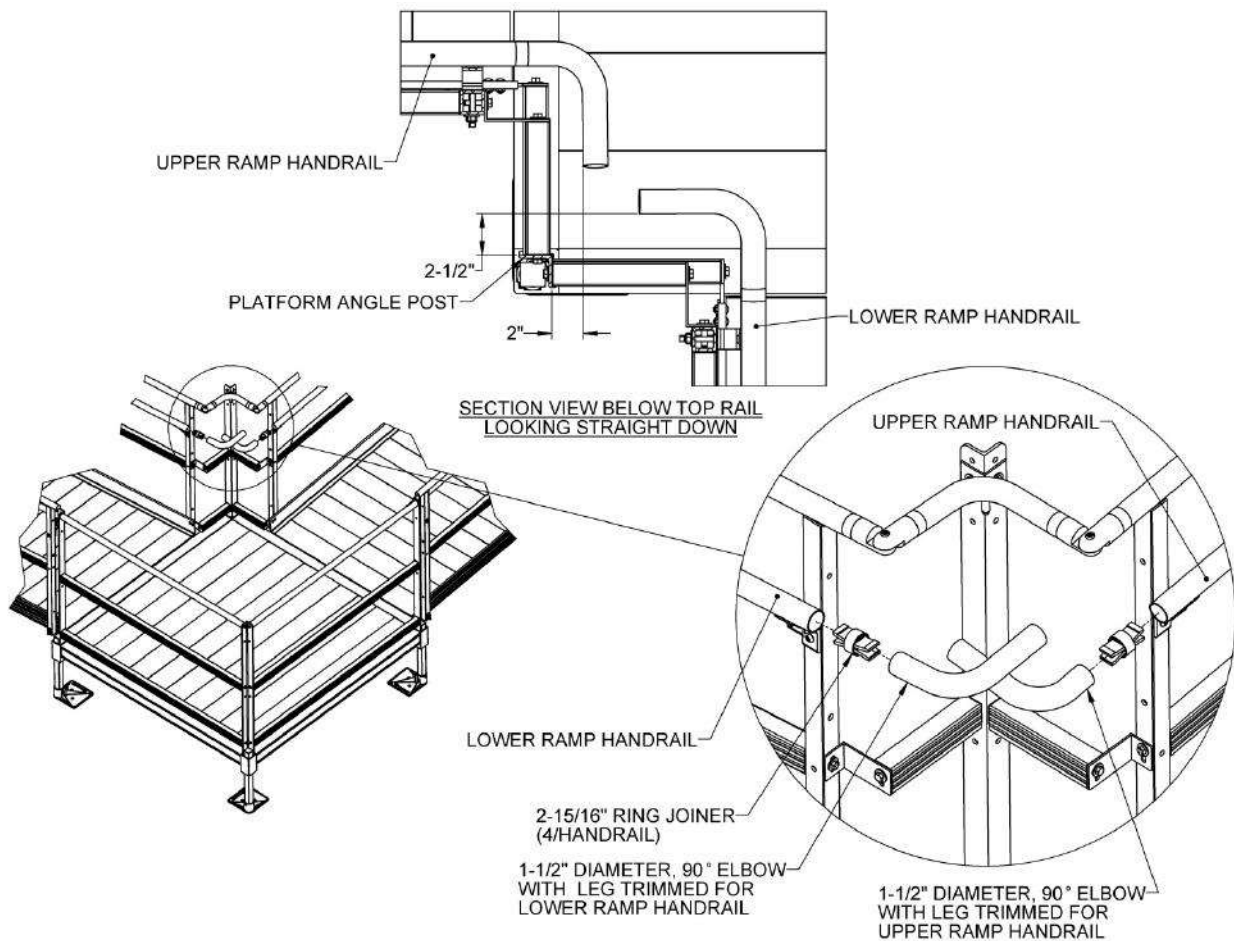

FIG. 5.41
- 5.8.13. Connect the ramp handrails at the corner turn by first trimming one leg from two 1-1/2" diameter 90° elbows. Trim the elbow leg which will be installed on the lower ramp handrail such that the leg pointing toward the platform angle post in the corner is 2-1/2" (approximately) from the angle post with a 2-15/16" ring joiner installed in the ramp handrail. Trim the elbow leg which will be installed on the upper ramp handrail such that the leg pointing toward the platform angle post in the corner is approximately 2" from the angle post with a 2-15/16" ring joiner installed in the ramp handrail (FIG. 5.41).
- 5.8.15. Insert 2-15/16" ring joiners in the open ends of the ramp handrails. Install the 90° elbow leg trimmed for the lower ramp handrail to the joiner in lower ramp handrail and the 90° elbow leg trimmed for the upper ramp handrail to the joiner in the upper ramp handrail. Orient joiner set screws toward the underside of ramp handrails and the 90° elbows toward platform angle post in the corner, and then tighten the joiner set screws enough to hold the elbows in place (FIG. 5.41).